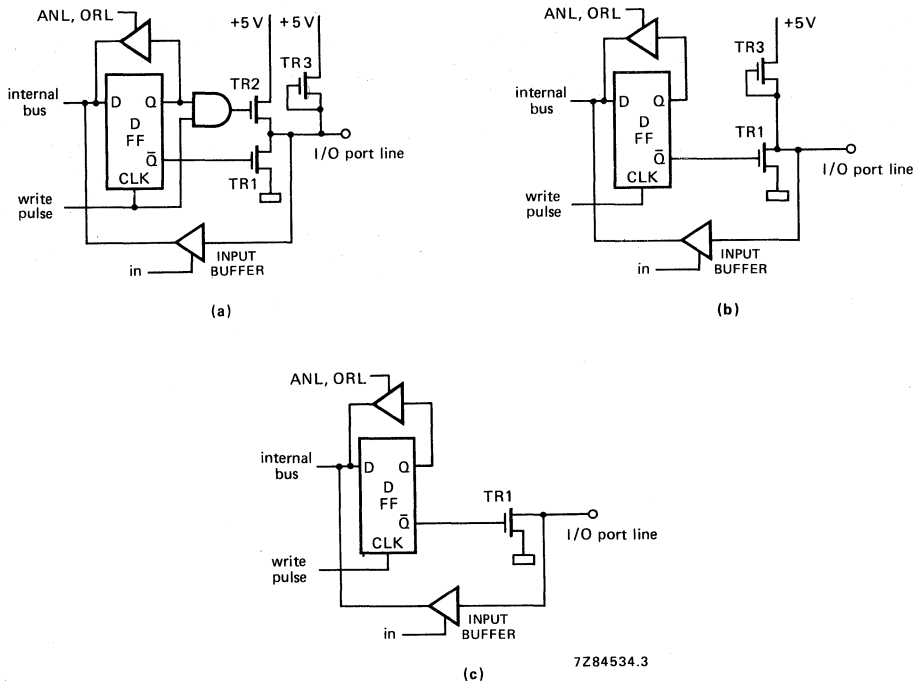

Fig. 5 Port option configurations.
I/O facilities (see Fig. 5)
- A push-pull output with pull-up (Fig. 5 (a))
- Open drain with pull-up (Fig. 5 (b))
- Open drain without pull-up (Fig. 5 (c))